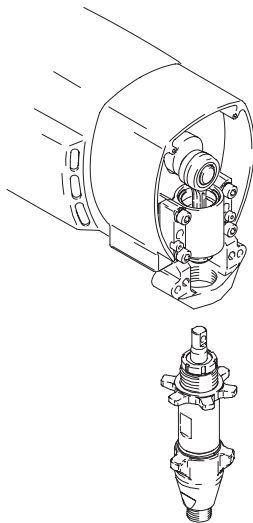

Fig. 23 7676A
1. Fig. 23. Pull piston rod out 1.5 in. Screw in pump until holes in bearing cross link and piston rod align.